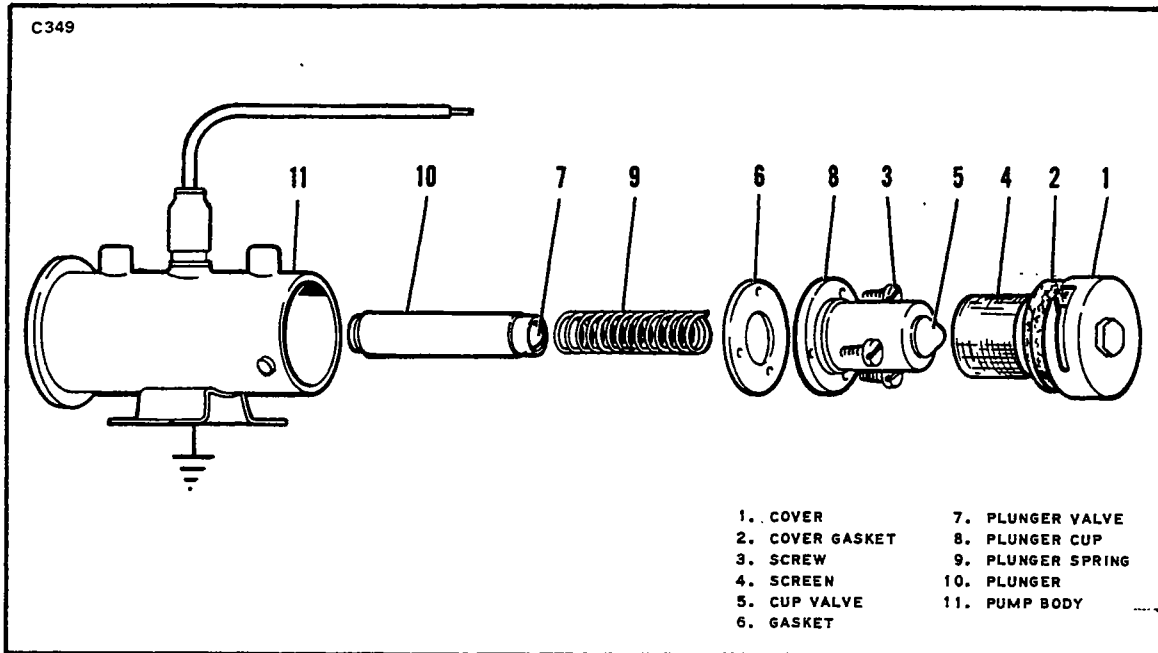
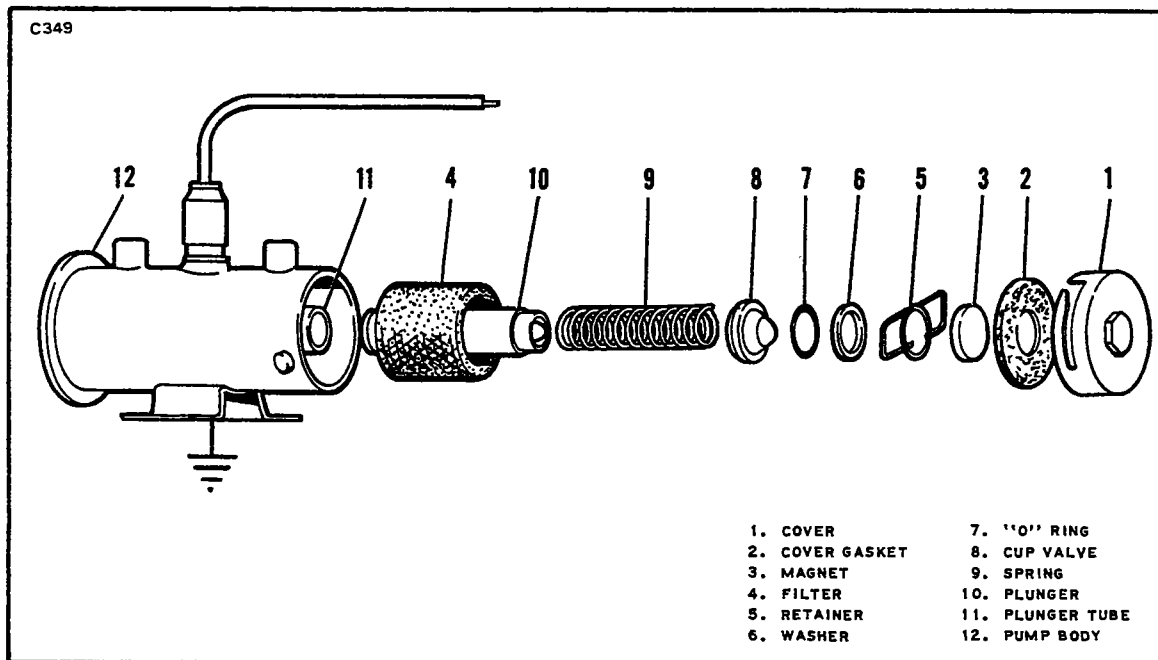

Figure 9-11. Plunger Fuel Pump (Early)
Figure 9-12. Plunger Fuel Pump (Late)
a. **Early Type Pump:** (Refer to Figure 9-11.)
b. **Late Type Pump:** (Refer to Figure 9-12.)
a. Later Type Pump: (Refer to Figure 9-11.)
1. Insert the plunger assembly (10) in the tube with the buffer spring end first. Check fit by slowly raising and lowering the plunger to stick. If a click cannot be heard, the interrupter assembly is not functioning properly in which case the pump should be replaced.
b. Early Type Pump: (Refer to Figure 9-12.)
1. Insert the plunger spring assembly (10) in the tube with the buffer spring end first. Check fit by slowly raising and lowering the plunger in the tube. It should move fully without any tendency to stick. If a click cannot be heard, the interrupter assembly is not functioning properly in which case the pump should be replaced.